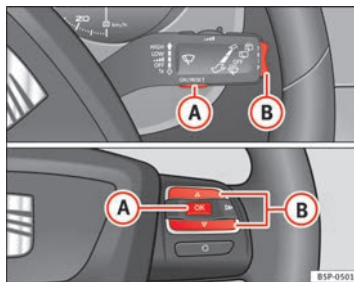

Fig. 41 Rocker buttons A and B. Steering wheel controls.
- When the ignition is on, briefly press button ⇒ fig. 41 **A** on the windscreen wiper lever to change from one memory to another or press button **A** on the steering wheel controls ⇒ fig. 41.